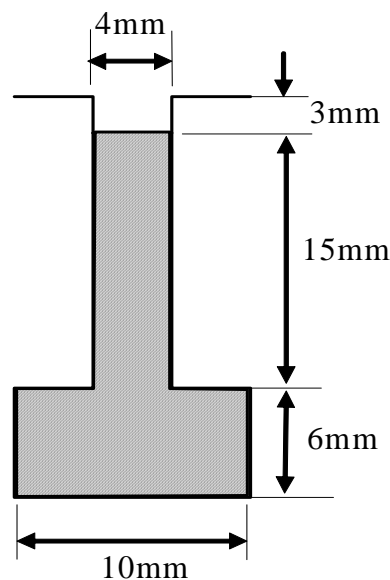

Figure 4
4. a. Figure 4 shows a cross-section of a rotor slot and conductor for a 3-phase squirrel-cage induction motor. Assuming that the current density is uniformly distributed throughout the conductor, derive an expression for the specific permeance for the slot. Full marks will only be given if all assumptions underlying the analysis are clearly stated.